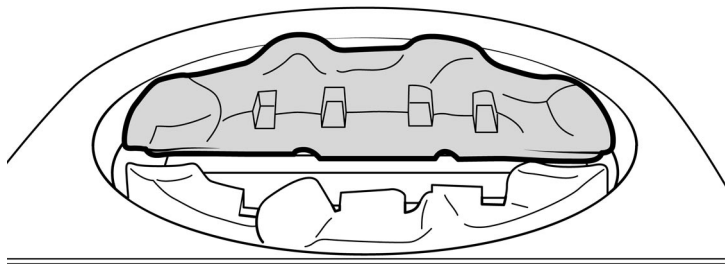

Figure 6. Rear base pebble location
2. The rear base pebble has the letters 'MB' on the underside. Locate the rear base pebble behind the burner (See figure 6)